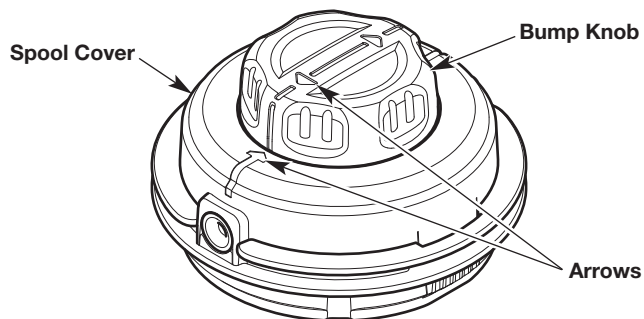

Fig. 24
- Turn the bump knob to align the arrows on the bump knob with the arrows on the spool cover (Fig. 24).